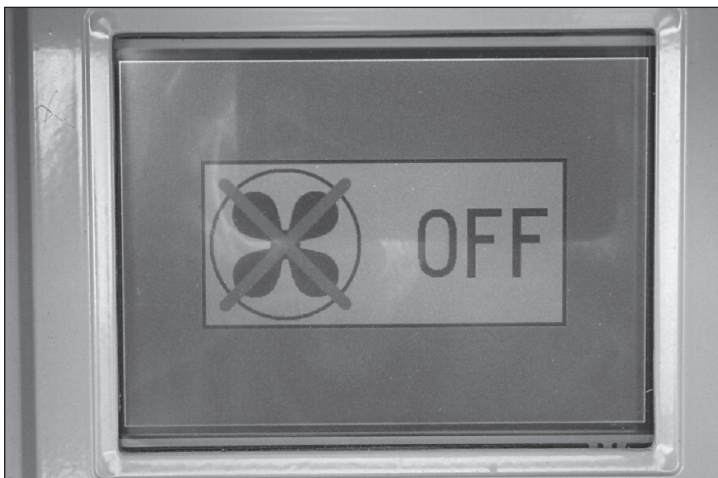

Figure 33
3. Once the temperature has been reduced to 130°F (54.4°C), the main fan will shut off, then the START screen should appear. See Figures 33 and 34.